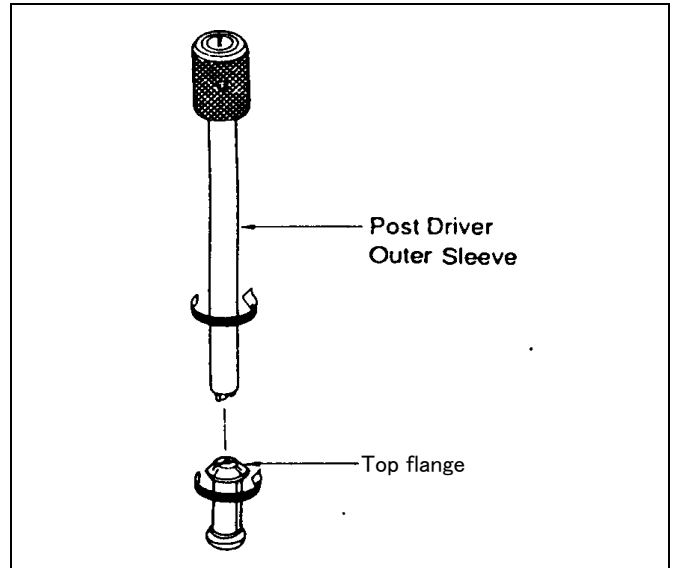

Figure 7-9-1 Flange Removal
3. Using only the outer sleeve of post driver (VFK0293), remove top flange by turning P2 and P3 post counterclockwise. Do not touch hex screw on top flange, which is shown in figure 7-9-1.